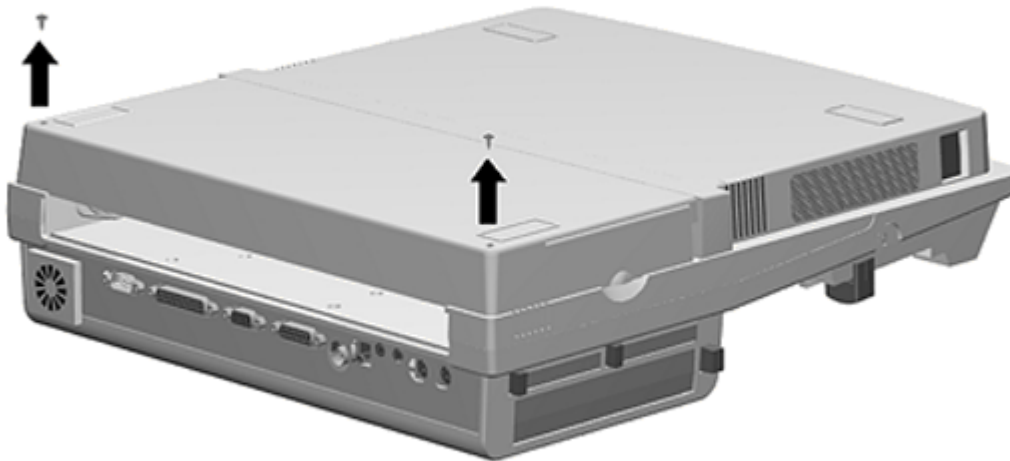

Figure 7-9. Removing the ISA Cover Screws
2. Place the expansion base face down on the work surface and remove the two screws that secure the ISA expansion cover to the bottom cover (Figure 7-9).